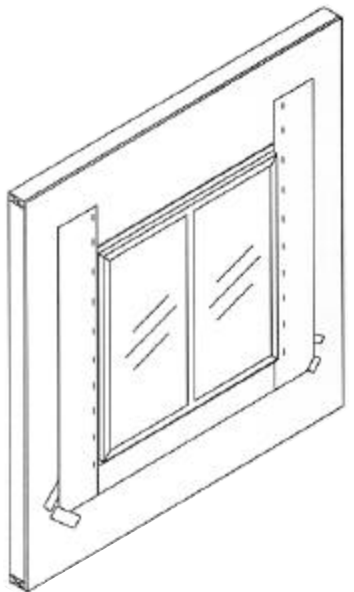

Figure 4 Apply jamb flashing (Method "A")
4. Install jamb flashing so the side edge covers the sealant bead. Press the flashing into the sealant (see Figure 4).